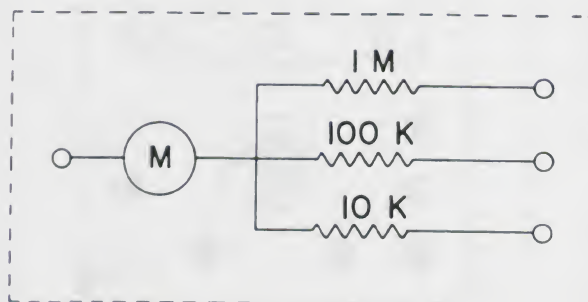

Figure 16.
2. The device shown in Figure 16 can be used as a three-range voltmeter. The terminal on the left side of the box is always used, and one of the three on the right side is used for any given measurement. Decide which should be used for low-range, medium-range, and high-range measurement.